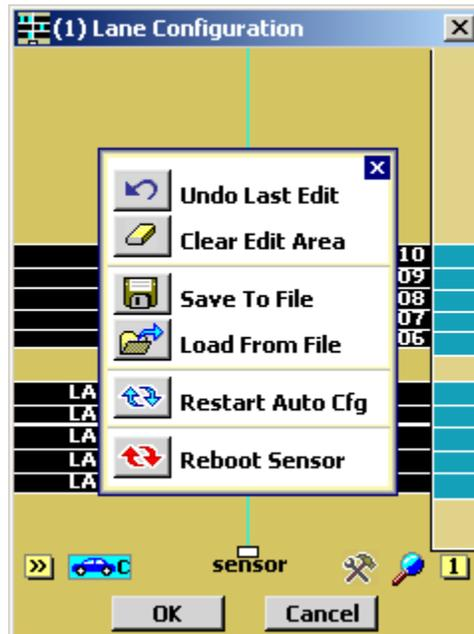

Figure 31 - Saving the Configuration
2. Select **Save to File** (see Figure 31).